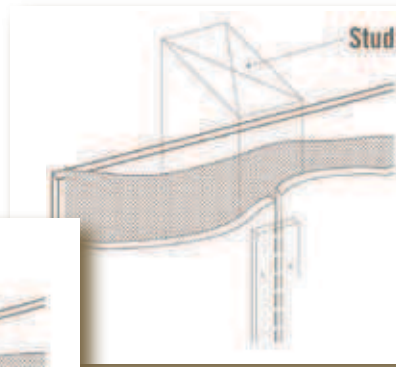

Fig. 8.1
- Cover the joint with a minimum 1-1/2" width batten strip. The batten strip may be fiber cement, wood, or PVC material. Caulk the vertical edge between the batten strip and NichiPanel. (Fig. 8.1)